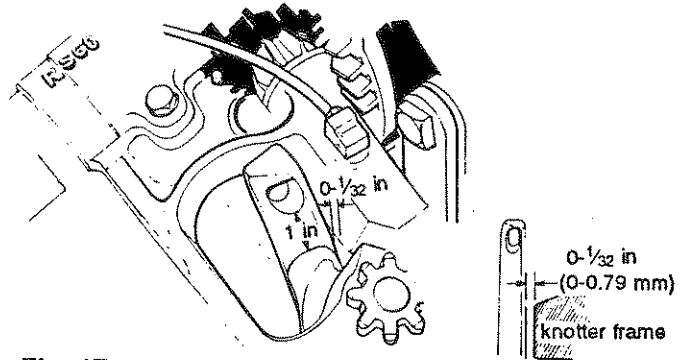

Fig. 17
1. **Clear the bale chamber of all baling material.** Use the manual operator pendant to jog the needles up through the bale chamber until the needle eye is next to the knotter frame, see **Fig. 17**. NOTE: Check to see that the base of the needles are centered with the bottom chamber needle slots. Adjustment is made by loosening the bolts at the needle mounts and repositioning the needle.